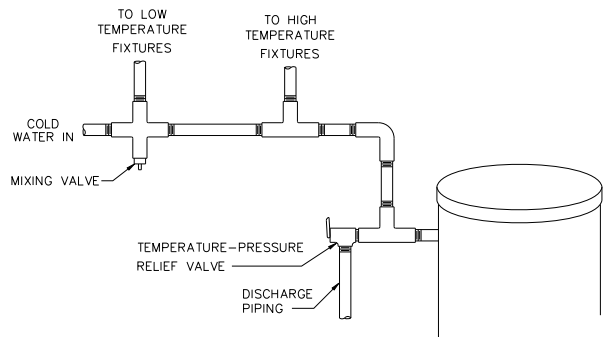

Figure 4: Mixing Valve
- c. **Domestic Hot Water Out with Mixing Valve.** See Figure 4.